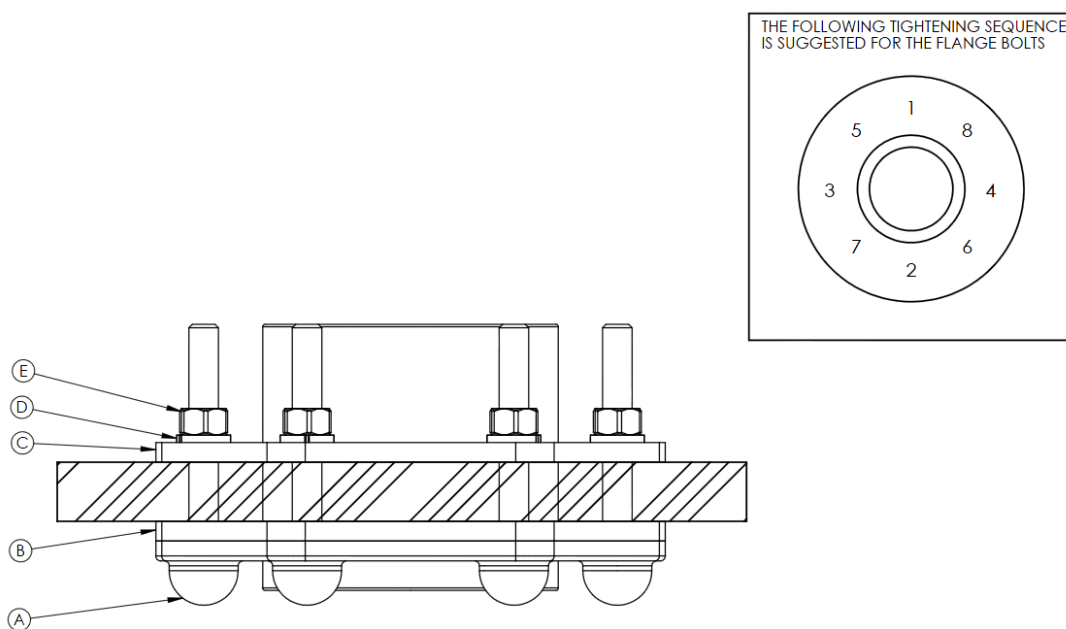

Figure 6.4
6.4.1 The bolted stainless steel fitting shall be constructed with 1 ea. inside flange with studs (A), 1 ea. fitting gaskets (B), 1 ea. outside flange (C), and the correct number of lock washers (D), and hex nuts (E) for the fitting specified. Refer to Figure 6.4 for part identification.
6.4.2 Disassemble the fitting as shipped by removing the hex nuts, lock washers, and outside flange. Locate the fitting hole on the inside of the tank and insert the fitting's studs through the drilled holes in the tank. The flange gasket (B) should be between the inside fitting flange and the inside tank wall. Place the outside flange over the studs on the outside surface of the tank. Install the lock washers and hex nuts on the studs. Check to make sure the fitting assembly appears as shown in Figure 6.4.